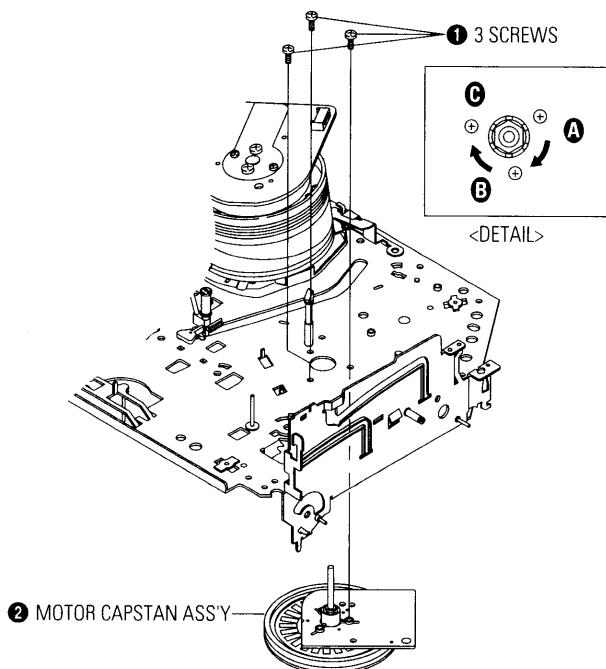

Fig. 4-36 Motor Capstan Ass'y Removal
- 4) Rotate Gear Worm Wheel ③ counterclockwise using screw driver again up to the state of eject mode and then pick out the tape. (Refer to Fig. 4-36)